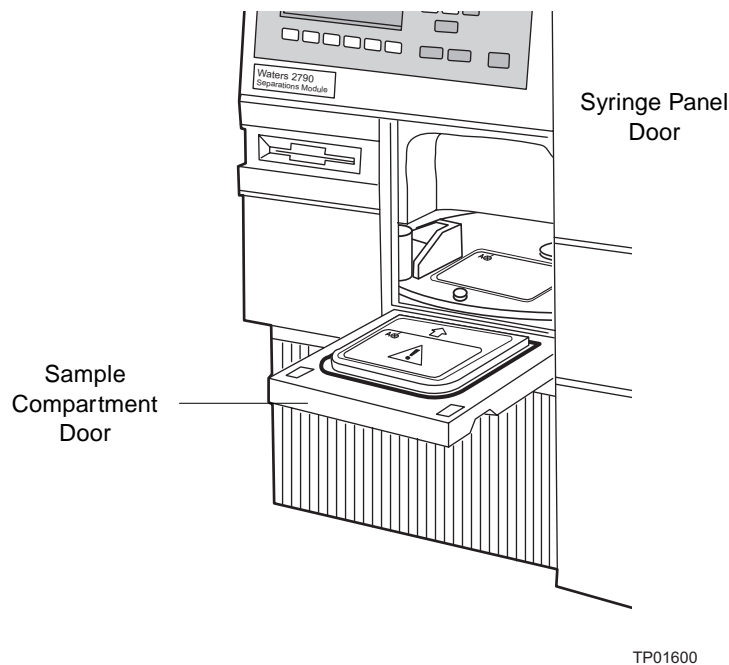

Figure 7-28 Sample and Syringe Compartment Doors
1. Open the sample compartment door (Figure 7-28).
8. Use the Allen wrench to loosen the two front panel captive screws (Figure 7-28), then remove the front panel (see Figure 7-25 and Figure 7-26).